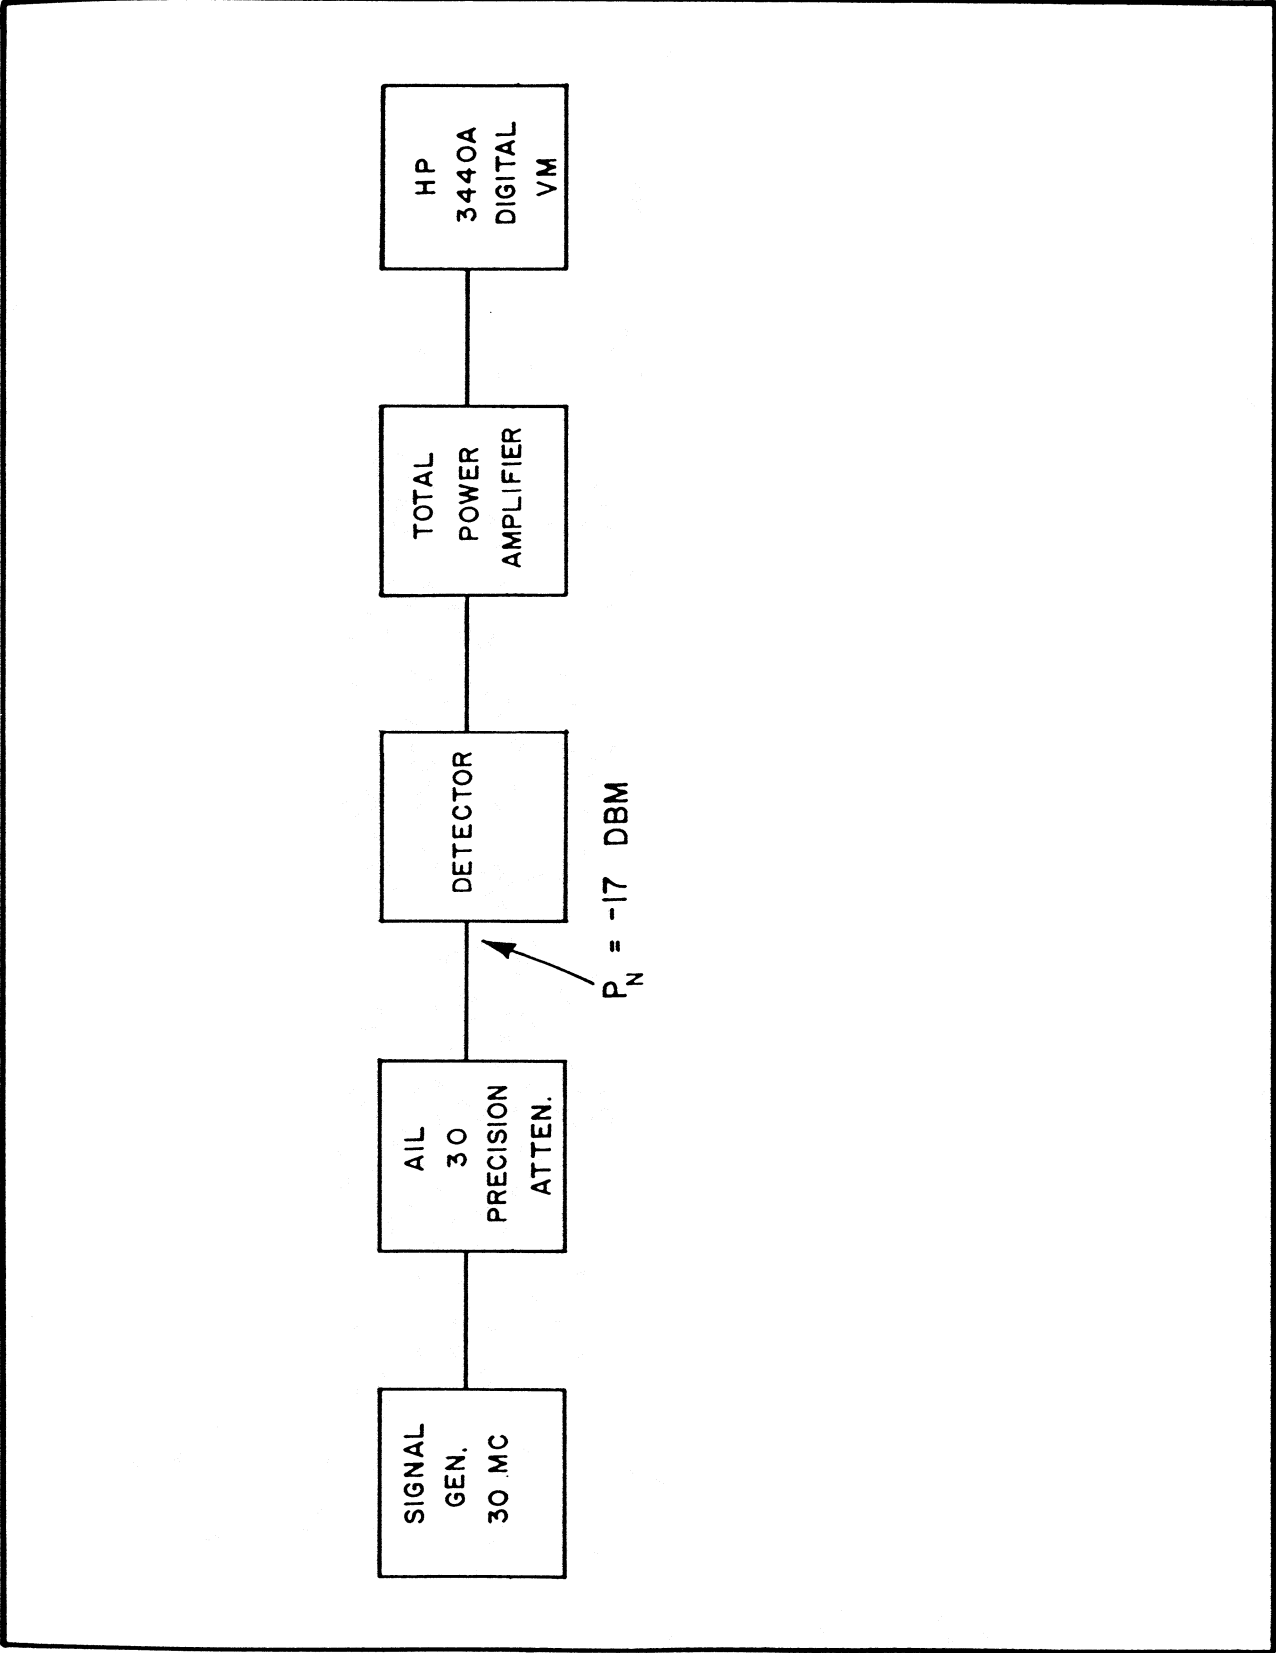

Figure 8 — Square Law Detector Adjustment Procedure
A. Square Law Detector Adjustment Procedure (See Figure 8.)